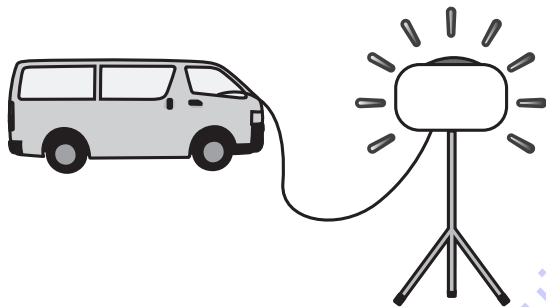

Figure 16. DC Power Source
3. Connect the other other end of the cigarette lighter cable to the cigarette lighter receptacle in the vehicle (Figure 16). The lighting system will automatically adjust to 100W when DC power is used.